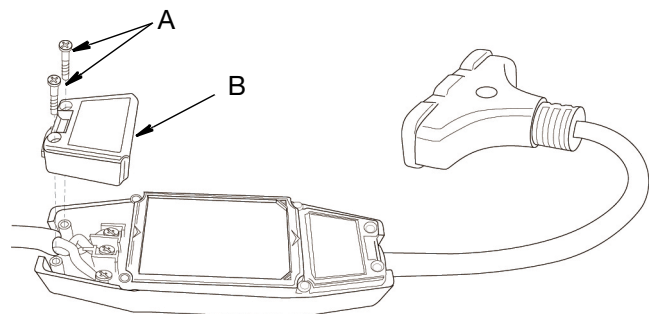

FIG. 10
Reference letters used in the following instructions refer to FIG. 10.
2. Loosen two Phillips #2 screws (A) on GFCI cover (B). Remove cover (FIG. 10).
3. Reassemble GFCI cover (B) with two Phillips #2 screws (A) (FIG. 10).